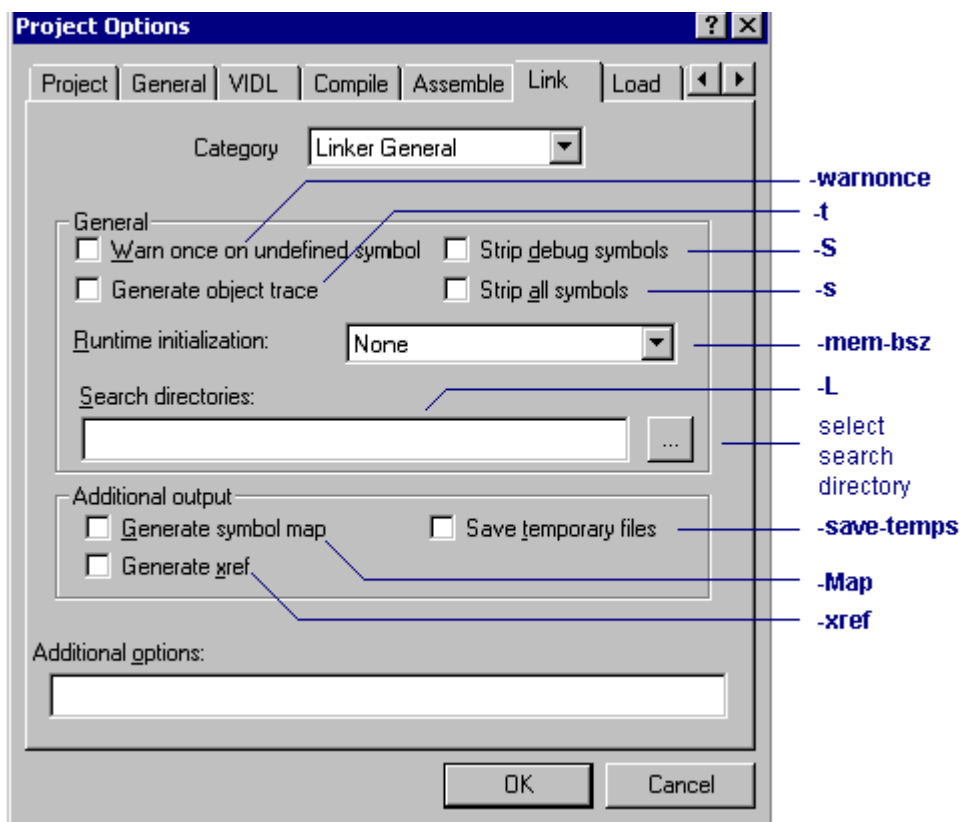
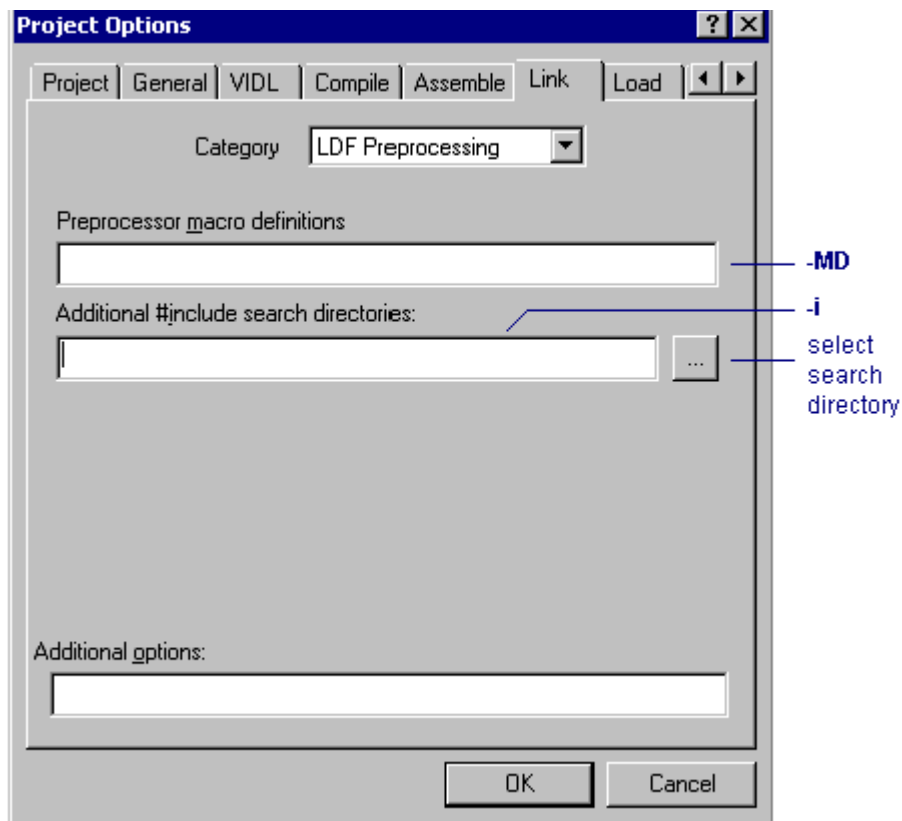
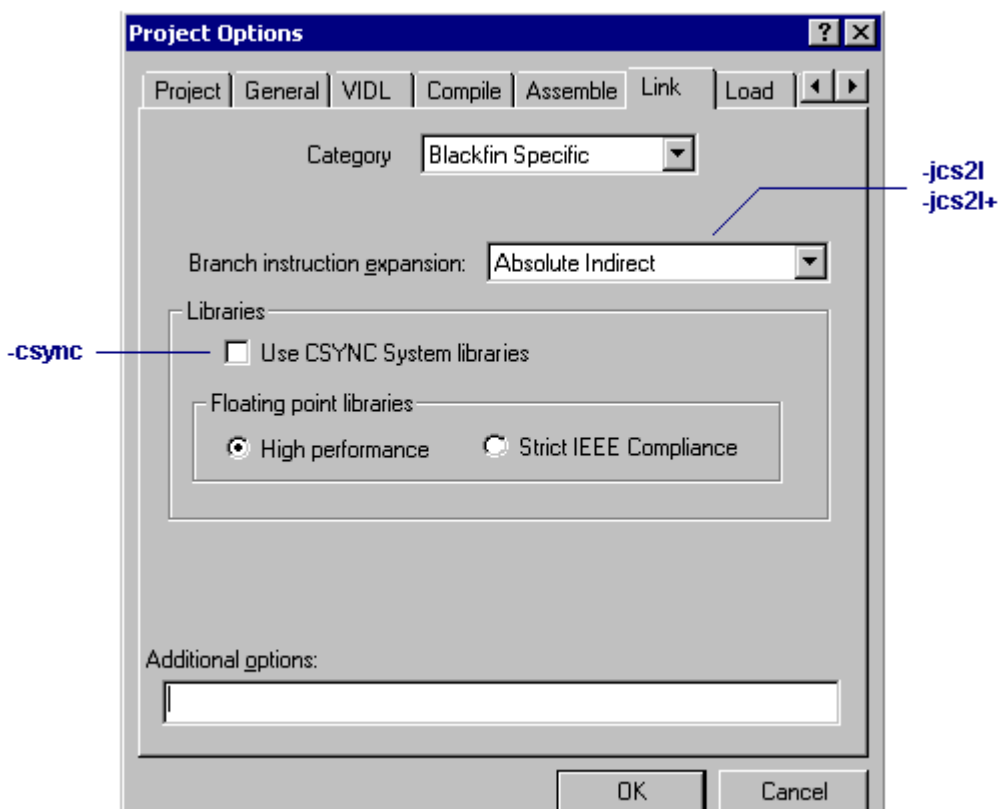

Figure 1-8. Link Page (1 or 3) of the Project Options Dialog Box
Figure 1-9. Link Page (2 of 3) of the Project Options Dialog Box
Figure 1-10. Link Page (3 of 3) of the Project Options Dialog Box
- Settings (options) on the **Link** page of the **Project Options** dialog box (see Figure 1-8 on page 1-17)
The callouts in Figure 1-8, Figure 1-9, and Figure 1-10 refer to corresponding linker command-line switches. In addition to selecting options on the **Link** page, use the page's **Additional options** field to specify switches and parameters that do not have corresponding **Link** page controls. Refer to "Linker Command Syntax" on page 1-33 for more information.